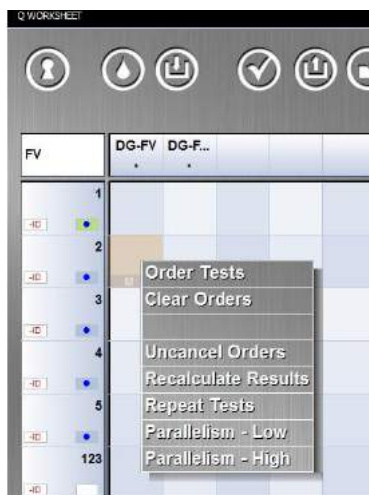

Figure 15.5. Ordering Different Parallelism Dilutions Sets to a Sample
- Select the desired Dilutions Set in the displayed menu: **Parallelism – Low** or **Parallelism – High** (see Figure 15.5).